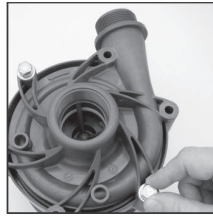

Figure 31
9. Install the impeller housing making sure that the discharge is in correct orientation (vertical or horizontal). Align the shaft in the barrier with the front shaft support in the impeller housing. Pressing down, push the impeller/inner drive magnet assembly into position. Holding the impeller housing with one hand, install and finger-tighten two bolts, lock washers and flat washers (items 15, 16, 17) in opposite locations. See figure 31.